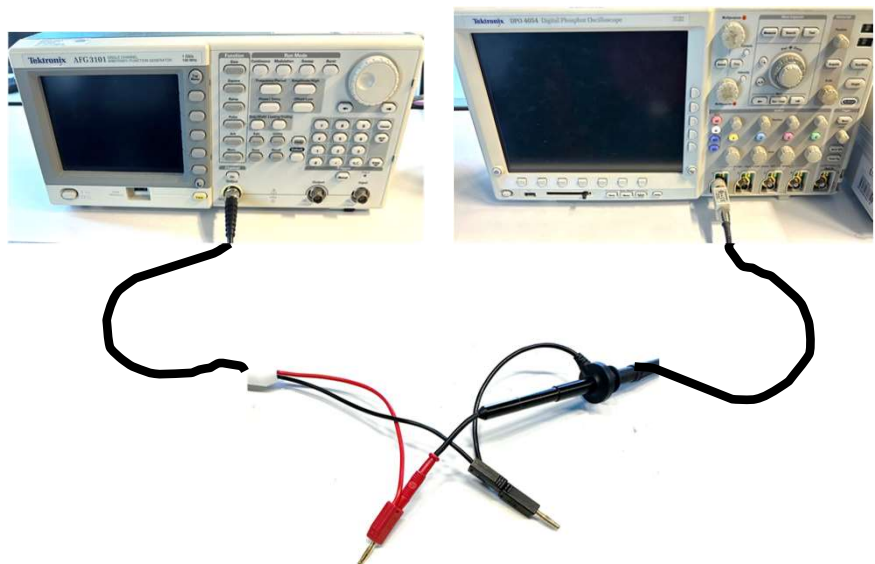

Fig. 6: How to check setup of a function generator
- Connect the function generator output to oscilloscope channel one using a terminated cable (figure 6, no digital circuit involved!)